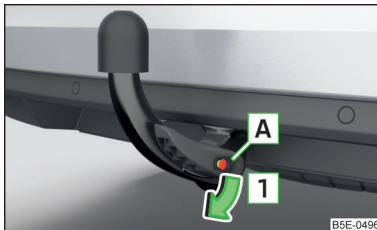

Fig. 304
- Remove the cover **A** from the lock in the direction of the arrow **1** » Fig. 304.